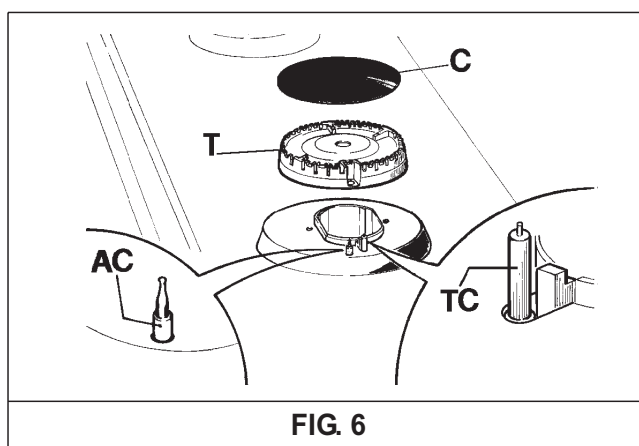

FIG. 6
Periodically wash the hot plate, the enamelled steel pan support, the enamelled burner caps "C" and the burner heads "T" (see fig. 6) with lukewarm soapy water. Following this, all parts should be thoroughly rinsed and dried. Never wash them while they are still warm and never use abrasive powders. Do not allow vinegar, coffee, milk, salted water, lemon or tomato juice from remaining in contact with the enamelled surfaces for long periods of time.
- Check that burner head slots "T" (fig. 6) have not become clogged by foreign bodies.
- Check that enamelled burner cap "C" (fig. 6) have correctly positioned on the burner head. It must be steady.